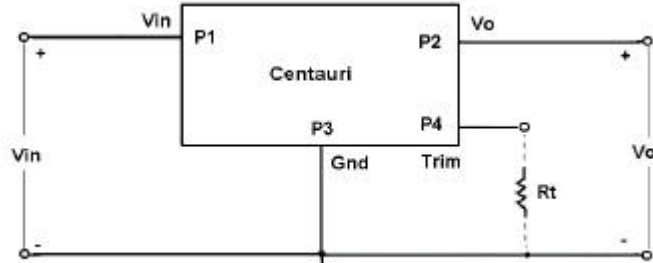

Figure 4. Output Voltage Trim Setup.
**To adjust  $V_o$  to a higher value**, please refer to Figure 4. The required resistor value ( $R_t$ ) can be determined through Equation (1) where  $V_o$  is the voltage on P2 before the adjustment and  $V_{ot}$  is the voltage of P2 after  $R_t$  is connected.